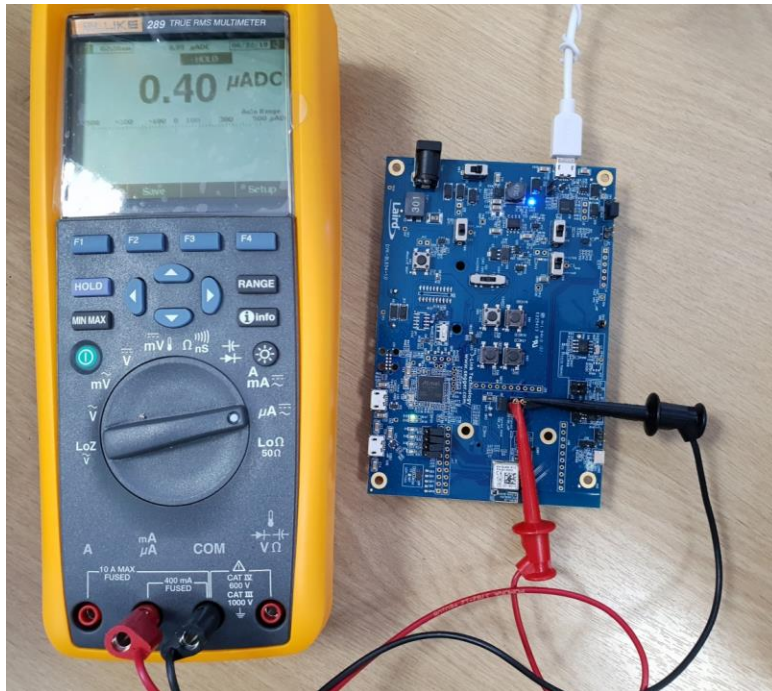

Figure 6: The current falls to about 0.4uA (400nA) when placed in deep sleep mode
5. Through the current measuring DMM, current should fall to about 0.5 uA (Figure 6).